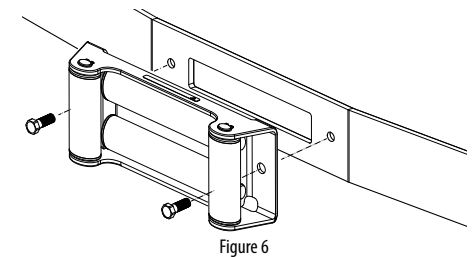

Figure 6
8. Fasten fairlead to mounting bracket. Figure 6.